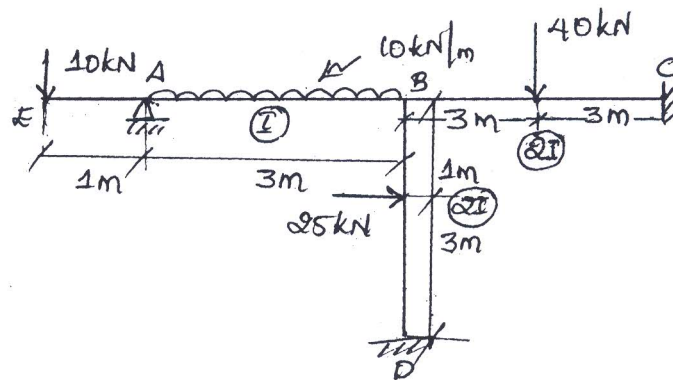

Fig Q7
- 7 Analyze the frame shown in Fig Q7 by slope deflection method. Draw BMD and elastic curve. (20 Marks)